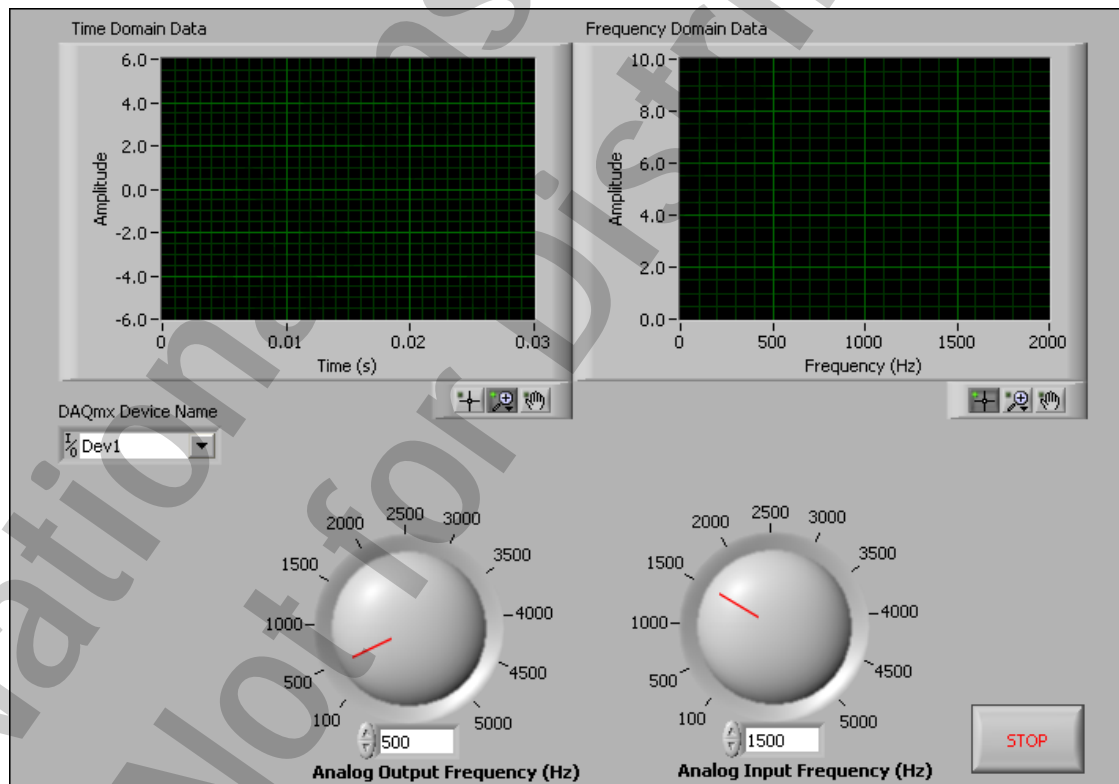

Figure 3-3. Sampling Rate Example VI Front Panel
- ☐ Open the Sampling Rate Example VI located in the <Exercises>\DAQ and Signal Conditioning\Aliasing directory. The front panel in Figure 3-3 appears.